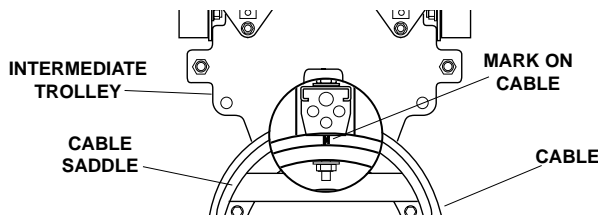

FIGURE 18-ALIGNING CABLE MARKS
BIG CABLE ON TOP provides maximum bending radius, improves heat dissipation and takes pulling force when tow cables are not used. See Fig. 18.
4. Hang cable. All marks on cable must align with tops of saddles (Fig 18). Arrange multiple cables per General Arrangement Drawing or Cable Guidelines (Figs 9-17. above).